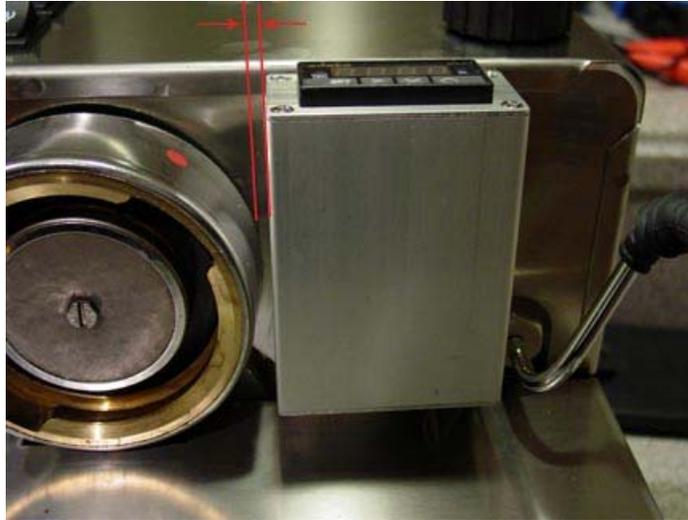

Figure 23. Control box position.
- 7) Remove the protection film on the double side tape on the box. Slowly and carefully mount it on the espresso machine. Make sure there is a gap between the group head and box as shown on Fig. 23. It is ok to let the box touching the steam wand holding nut. You have only one chance to put it in the right position. If you remove it and try to put back again, the bonding will not be as good.